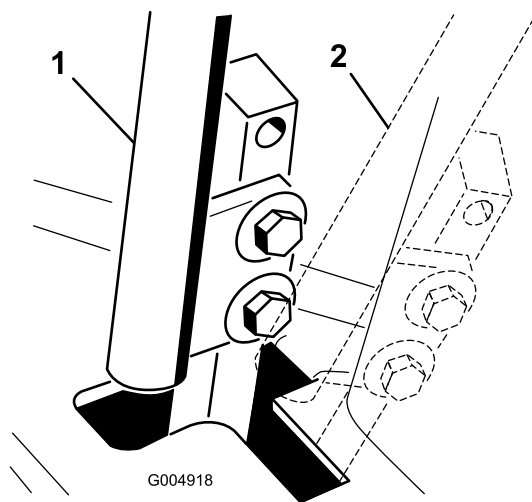

Figure 57
4. Move the control lever to the NEUTRAL position but **not locked** (Figure 57).
6. Check where the control lever is relative to notch in the console (Figure 57).